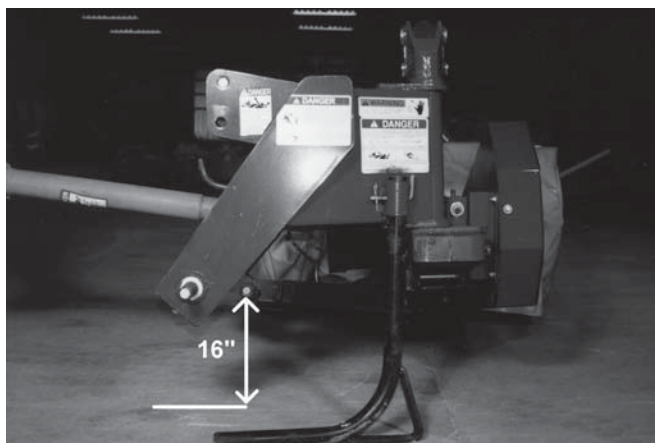
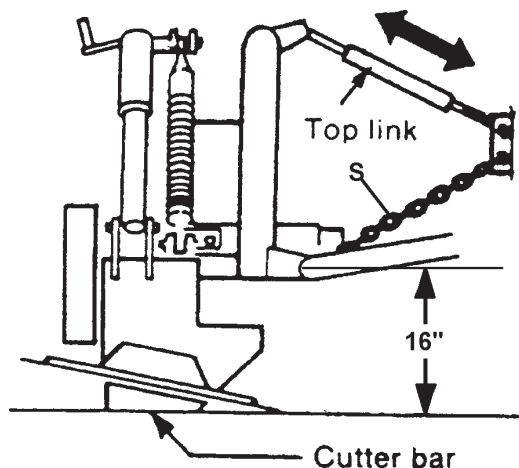

Figure 5
Figure 6
6. Lower the mower so that the center of the lower linkage arm is 16" above the ground. (See **Figure 5**.)
7. Connect the Support chain (S) to the tractor's top link support bracket and adjust to maintain the ground-to-linkage height of 16" set in Step in 5. Plate attaches on righthand lower lift arm pin. Chain should maintain mower height, adjust as necessary.
8. Lower the mower to the ground and check the following: A. Cutter bar contact with the ground. B. Proper chain tension. C. Approximately 16" between the lower link and the ground. (See **Figure 6**.)